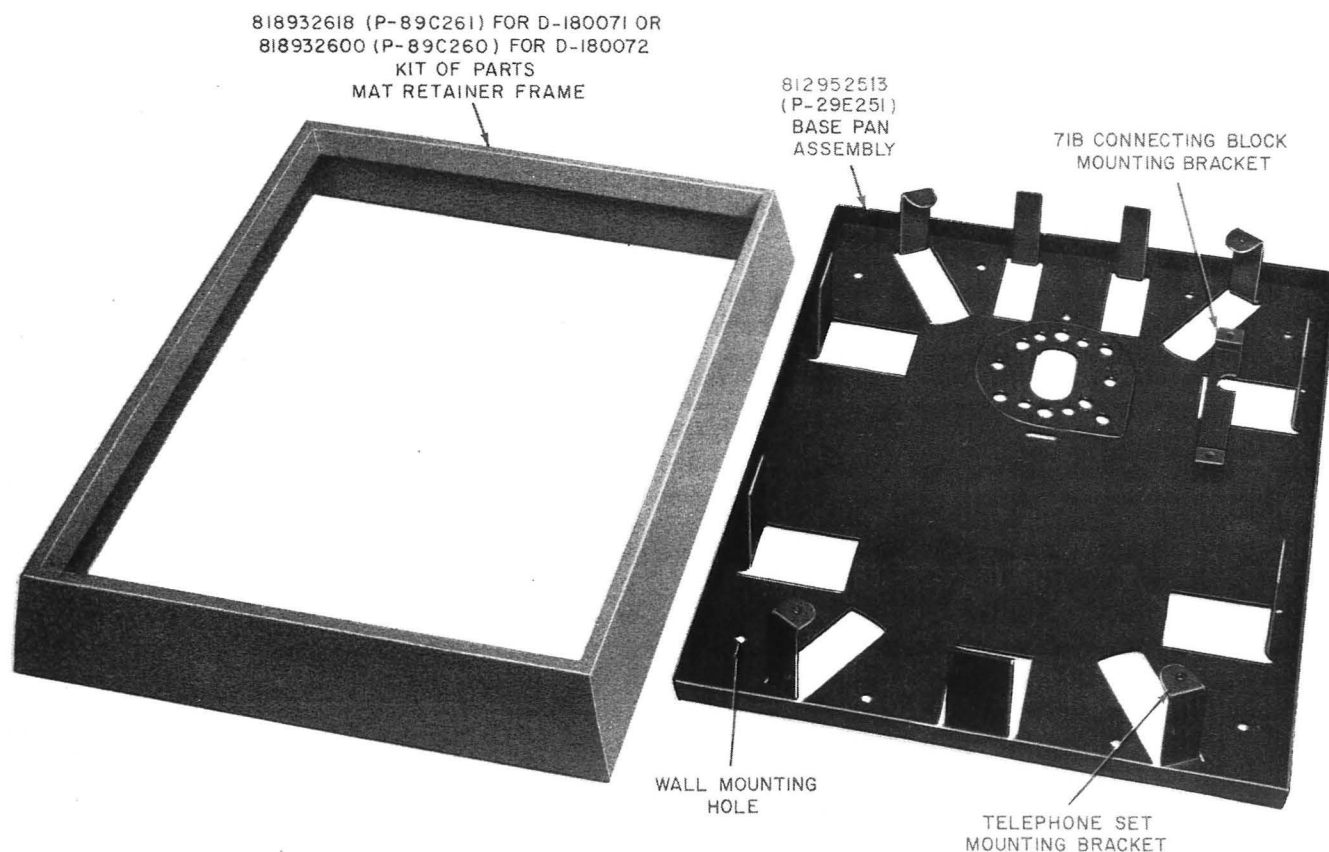

Fig. 2—D-180071 or D-180072 Kit of Parts for Surface Mounting
- (1) The D-180071 (light gray frame) or D-180072 (light beige frame) Kit of Parts, ordered separately, permits mounting these sets on the surface of a wall (Fig. 2).
- (2) The base pan assembly is arranged for mounting on a 63A or KS-19407L1 bracket or a standard electrical outlet box.